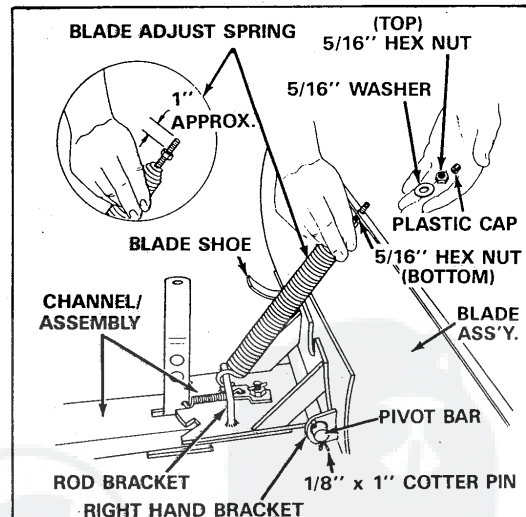

FIGURE 9
6. Assemble blade assembly to channel assembly by sliding one end of pivot bar into right hand bracket and then sliding back into left hand bracket. See figure 9. Secure by assembling two 1/8" x 1" cotter pins into small holes near ends of pivot bar. Spread ends to retain.
7. To assemble blade adjust spring, remove plastic cap, 5/16" flat washer and one 5/16" hex nut. Adjust the remaining 5/16" hex nut on the long bolt to approximately one inch down from end of bolt threads. Assemble adjusting bolt through hole in top edge of blade and hold in place with 5/16" flat washer and 5/16" hex nut removed earlier. **Do not tighten 5/16" hex nut at this time.** Push down on the spring and hook end of spring over rod bracket as shown in figure 9. Tighten 5/16" hex nut on top edge of blade down against the bottom 5/16" hex nut. Replace plastic cap over end of adjusting bolt threads. See figure 9.